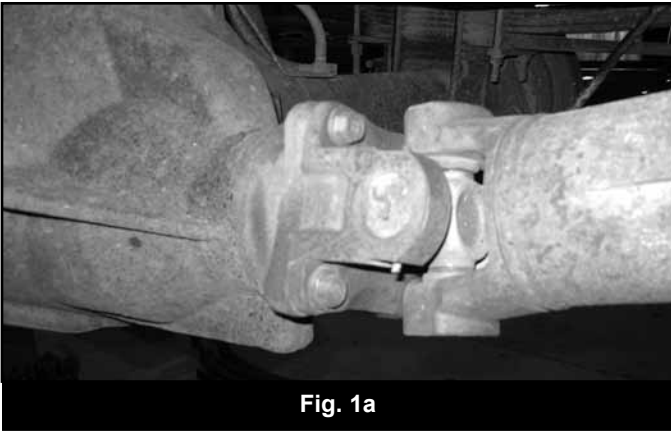

Fig. 1a
4. Remove the rear driveshaft from the vehicle. Mark the driveshaft at the axle so that it can be reinstalled in the same manner it was removed. It will take 2 people to hold the weight of the driveshaft (it's heavy), remove carrier bearing hardware if equipped. (Fig 1a, 1b)